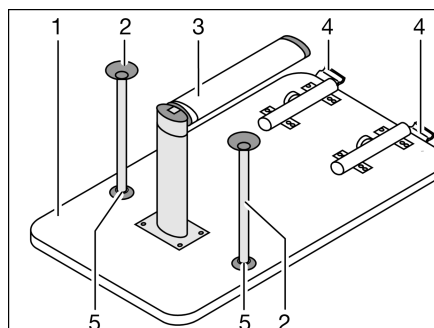

Fig. 98 Bed foundation
- Lift the front of the table-top (Fig. 98,1) by approx. 45°.
- Fold the lower part of the fold-out leg (Fig. 98,3) by 90°. Depending on the model, pull the lower part of the fold-out leg down or push the release knob.
- Press the release knob on the lock (Fig. 98,4).
- Depending on the model, insert both additional support legs (Fig. 98,2) into the holders (Fig. 98,5) on the bottom side of the table.